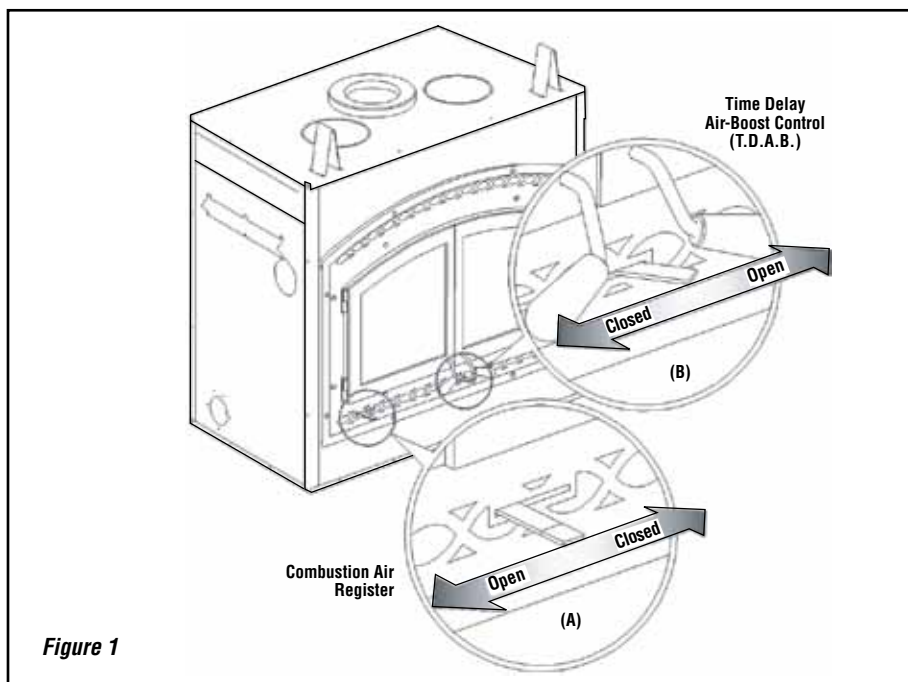

Figure 1
The combustion air control should be opened before opening the doors to minimize the possibility of back draft coming into the room (**Figure 1-A**) More details are available in *Refueling For Best Performance* on **Page 5**.
The register gradually reduces the amount of air injected, allowing for a better start of the fire, whatever the conditions (See sections *Building a Fire* and *Refueling For Best Performance* for proper sequence of operation). This allows you to start the fire, set the primary air control to the desired burn level and the fireplace will automatically adjust itself to that level once the fire is fully established (**Figure 1-B**).
- Completely open the air control level and the T.D.A.B. (Time Delay Air Boost) level. See *Figure 1*.